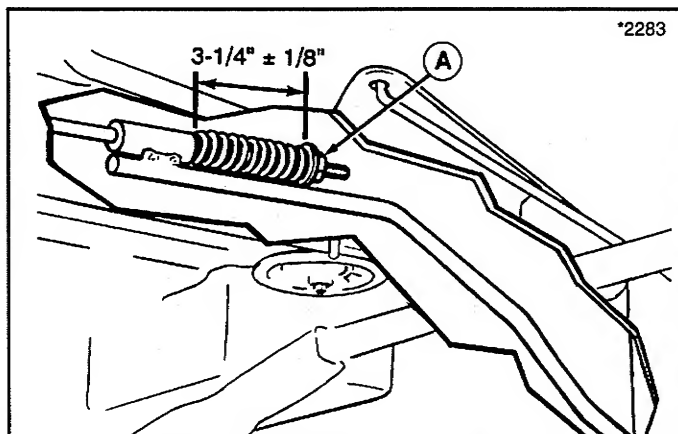

Figure 28. Brake Adjustment - Gear Models
2. See figure 28. The spring should be compressed to $3\frac{1}{4}'' \pm \frac{1}{8}''$. Turn the adjustment nut (A) as necessary to achieve correct spring length.